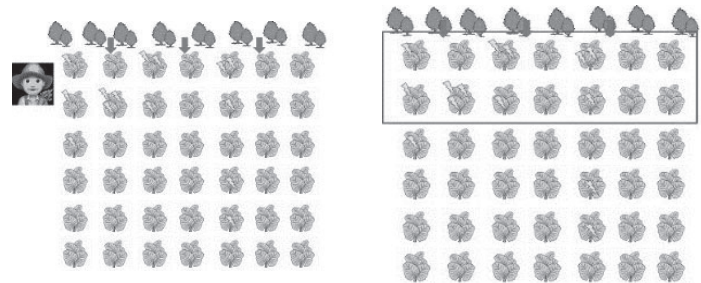

Figure 2. A farmer sees heavy pest pressure on the edge of a field near the tree line. Image: S. Scheufele
Shade cloth is another potential strategy for reducing stem necrosis. In a 2022 trial conducted by the UD Extension Vegetable Program, 30% black shade cloth was very effective in preventing pepper transplant loss. The shade cloth was applied on June 1, the same day as transplanting. In the shaded plots there was 97% stand 49 days after transplanting; however, in unshaded plots only 64% of the transplants survived. The shaded treatment also had larger plants (Fig. 2) which eventually produced significantly higher marketable yields.
**Figure 2.** Pepper plants that were shaded immediately after transplanting (top) had higher stand establishment and greater plant vigor than unshaded plants (bottom).
**Now to scouting!** The idea here is to assess a random sample of plants that is representative of what is happening in the whole field or crop, or to identify hot spots or problem areas in the field or among different crops or varieties. Don't make spray decisions based on what you see on the first couple of plants in your sampling! You might panic because the first plant is covered in beetles, but then realize that the problem is localized and that the crop as a whole is well below threshold (Figs. 2 and 3).